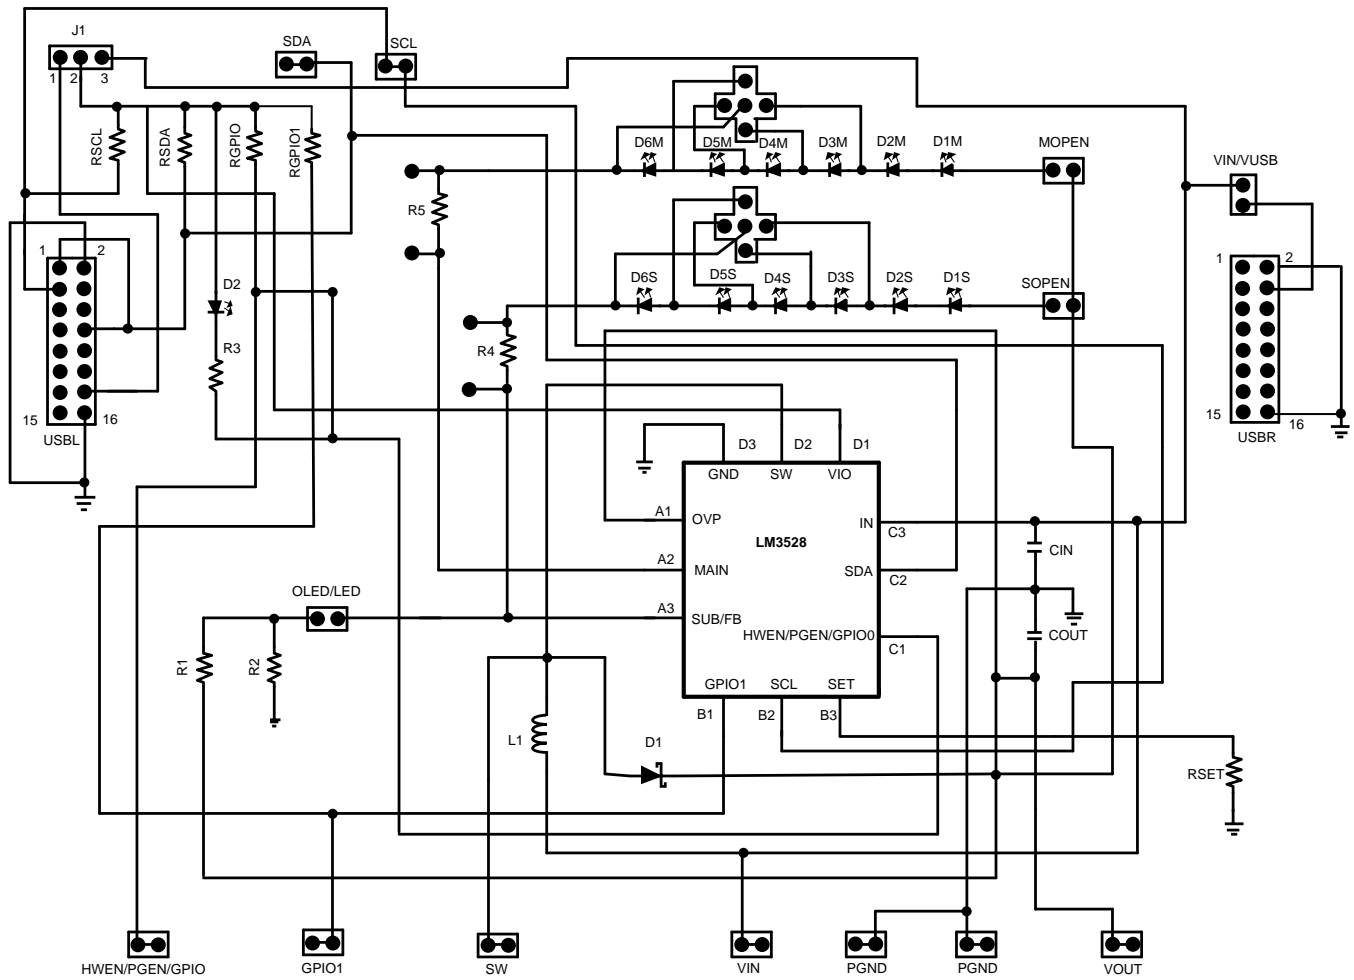

Figure 1. LM3528 Evaluation Board Schematic
## 6 Basic Connections (see Figure 1)
- J1 is a 3-pin, 3-position jumper. The leftmost pin (pin 1 in Figure 1) connects to the 3.3 V supply from the USB board (pin 14 on the USBL connector). The rightmost pin (pin 3 in Figure 1) connects to IN. The top middle pin (pin 2 in Figure 1) connects to VIO of the LM3528, the top side of the pull-up resistors (RSDA, RSCL, RGPI0, RGPI01), and the anode of the indicator diode D2.
- The 5-pin, 5-position jumpers (2/3/4/5/6 LEDM and 2/3/4/5/6 LEDS) located above the MAIN and SECONDARY LED strings, respectively, allow for shorting out of different LEDs in both the MAIN and the SECONDARY strings. Both jumpers have their center pin (pin 5 in Figure 1) connected to the cathode of the sixth LED in each string. Referring to jumper 2/3/4/5/6 LEDS, connecting pin 4 to pin 5 will short D6S, thus, making the SECONDARY string a five-LED configuration. Connect pin 3 to pin 5 to short D5S and D6S resulting in a four-LED configuration. Connect pin 2 to pin 5 for a three-LED configuration (D4S – D6S shorted). Connect pin 1 to pin 5 for a two-LED configuration (D3S – D6S shorted), and leave jumper 2/3/4/5/6 LEDS open for a six-LED configuration. The operation for jumper 2/3/4/5/6 LEDM is the same, only it applies to the MAIN LED string.